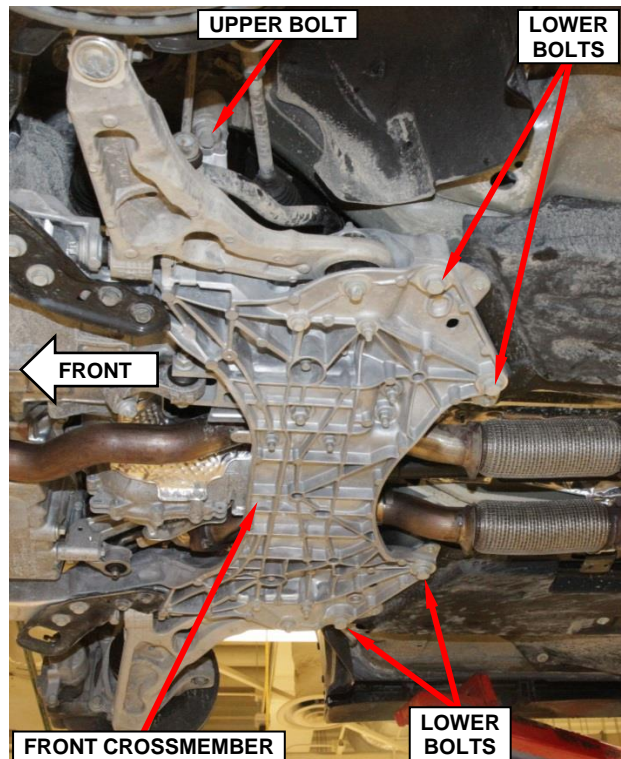

Figure 12 – Front Crossmember
15. Front crossmember to the vehicle body upper bolts on the left and right side of the vehicle, two bolts total. Tighten the upper bolts to 89 ft. lbs. (120 N·m) (Figure 12).
16. Front crossmember to the vehicle body lower bolts on the left and right side of the vehicle, four bolts total. Tighten the lower bolts to 96 ft. lbs. (130 N·m) (Figure 12).